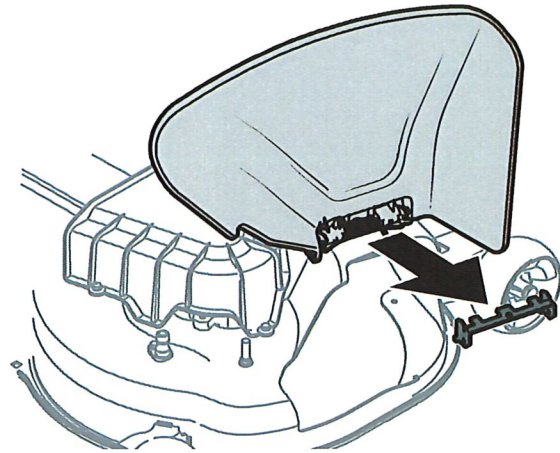

Figure 9
2. Lower the chute deflector and discard the shipping brace. See Figure 9.